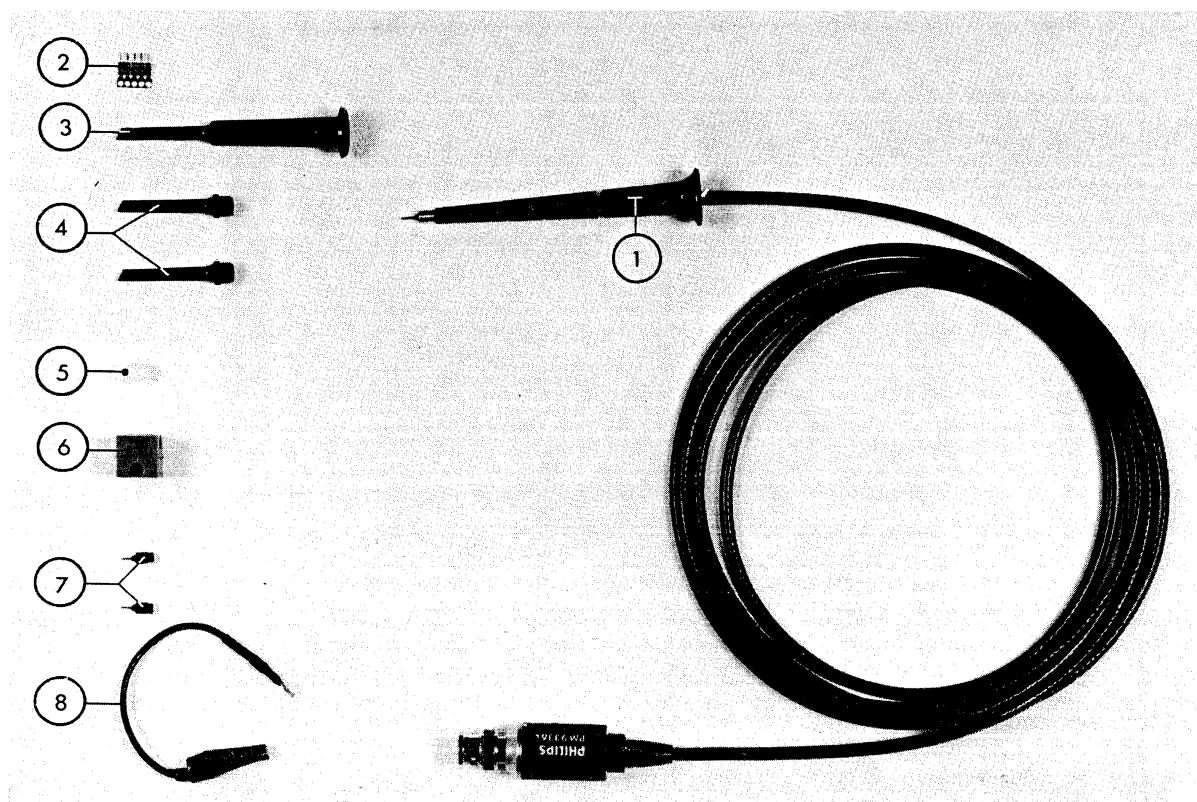

Fig. 3.26. Attenuator probe set PM 9336 (PM 9336L)
1 probe assembly	Fig. 3.26. item 1
5 soldering terminals	Fig. 3.26. item 2
1 test hook	Fig. 3.26. item 3
2 spare test hook sleeves	Fig. 3.26. item 4
1 protective cap	Fig. 3.26. item 5
1 probe holder	Fig. 3.26. item 6
2 probe tips	Fig. 3.26. item 7
1 earthing cord	Fig. 3.26. item 8
### 3.5.8. MULTI-PURPOSE CAMERA PM 9380 (Fig. 3.26)